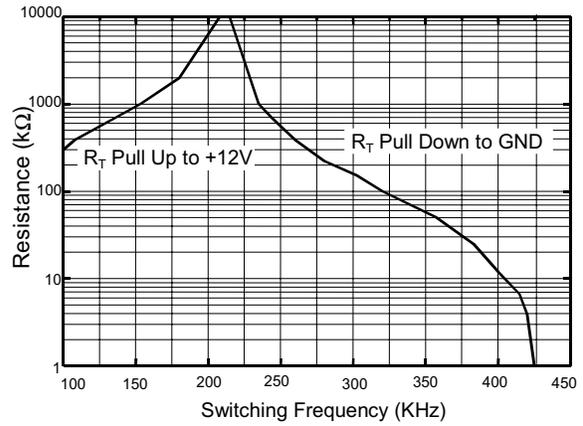

FIG. 3 R_T Resistance VS. Frequency
- Pin 10: RT: Frequency adjustment pin. Connecting a resistor (RT) from this pin to GND, increasing the frequency. Connecting a resistor (RT) from this pin to VCC, decreasing the frequency by the following figure (Fig.3).